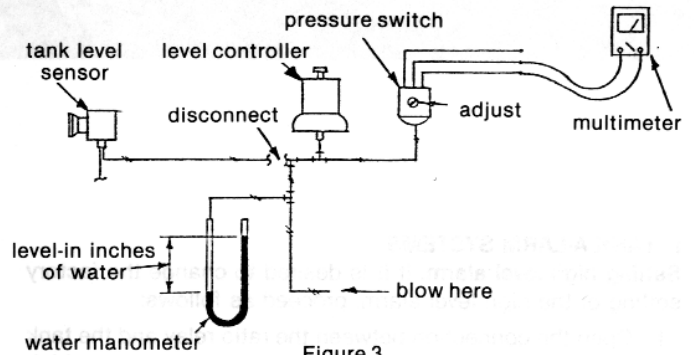

Figure 3.
11. Set up a test as in Figure 3. Disconnect the signal from the level sensor. In its place, connect a piece of tubing including a manometer or test gauge. Connect a multimeter to the pressure switch leads—the common and either the NO (normally open) or the NC (normally closed).